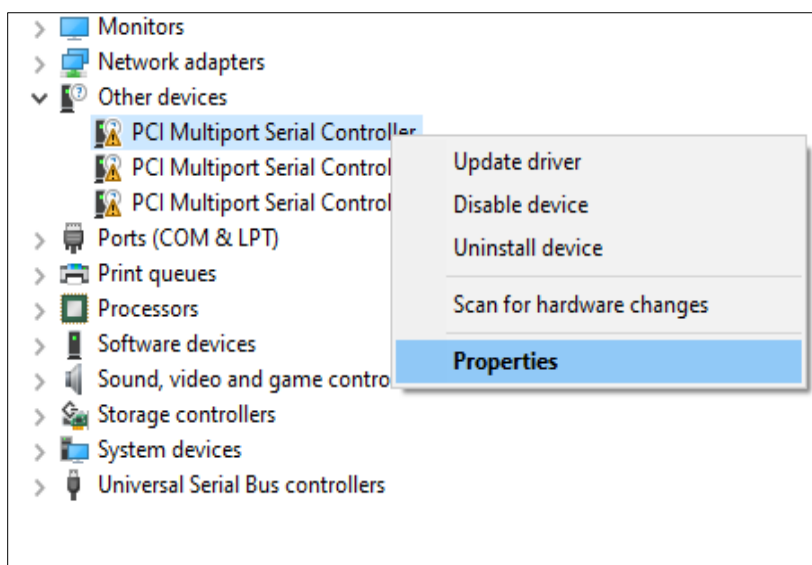

Figure 5.22. Showing Device Properties
2. Right-click each device and select **Properties** as shown in Figure 5.22.